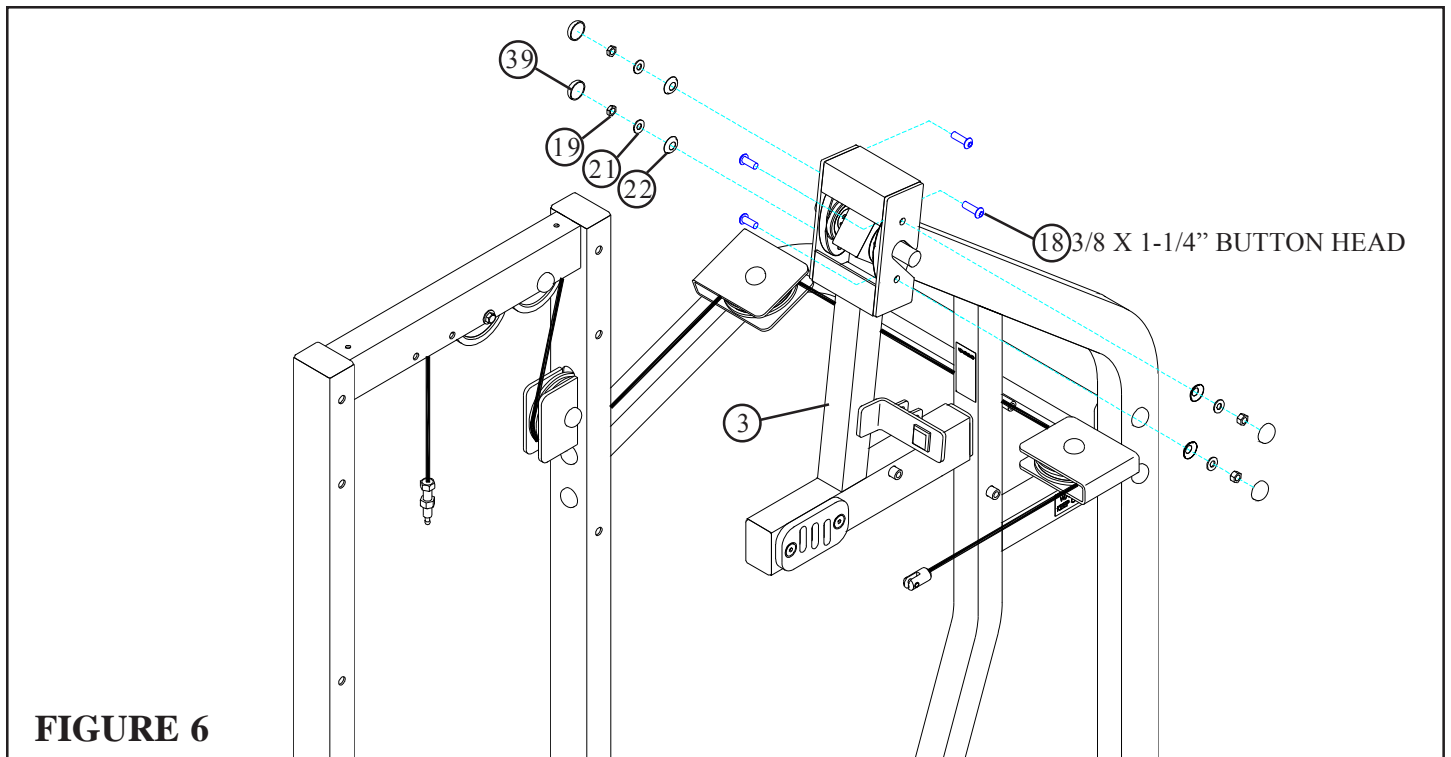

**FIGURE 5**
- Slide the ARM ADJUSTMENT (3) over the shafts on the BOOM ASSEMBLY (4) as shown in FIGURE 5. (**NOTE: Make sure PILLOW BLOCKS are on the INSIDE of the ARM ADJUSTMENT.**)